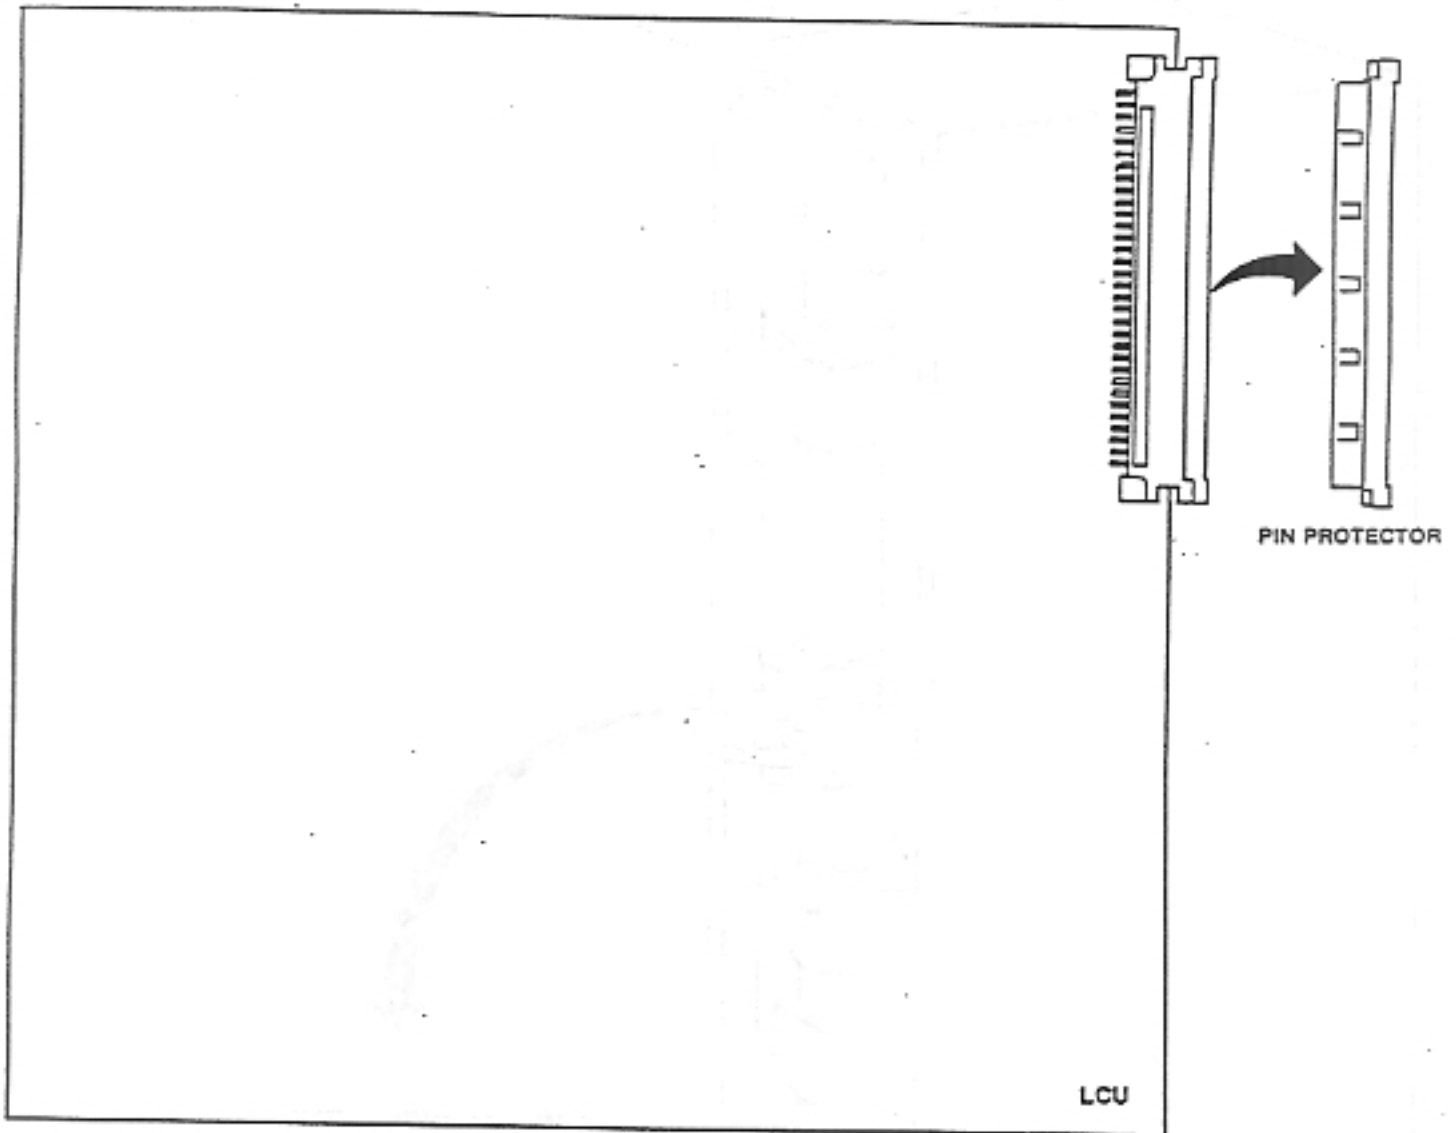

Figure 5-2 Pin Protector
6. Remove pin protector on LCU circuit card (refer to Figure 5-2). Install the LCU circuit card into the slot marked LCU, push in until it is firmly seated in the MBD.